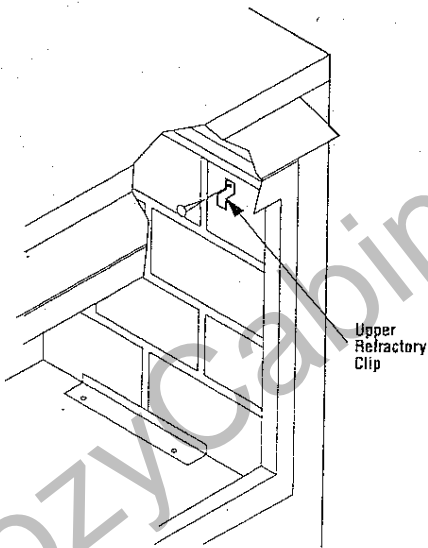

Figure 2
**Step 2.** Refer to Figure 2 and install two upper refractory clips at the appliance upper corners with one (1) #8-18 x 1/2 Hex Washer Head TEK 2P screw each.